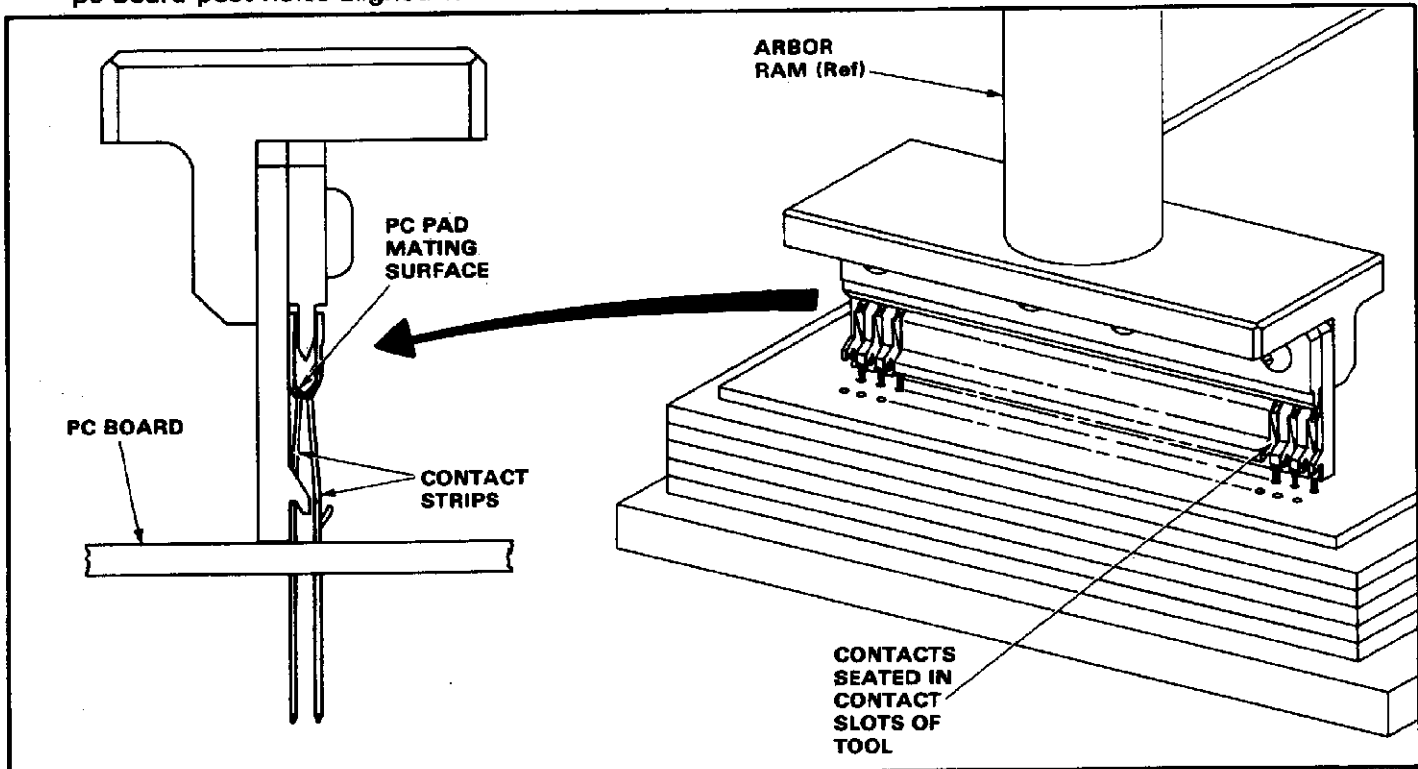

Fig. 3
4. With the printed circuit pad surface of the contact turned outward, hold the tool at a slight angle to the strip of contacts and insert the carrier into the carrier slot. Make sure the contacts are aligned with the contact slots in the push blade, then rotate the tool until the contacts are seated in the contact slots. See Figure 3.